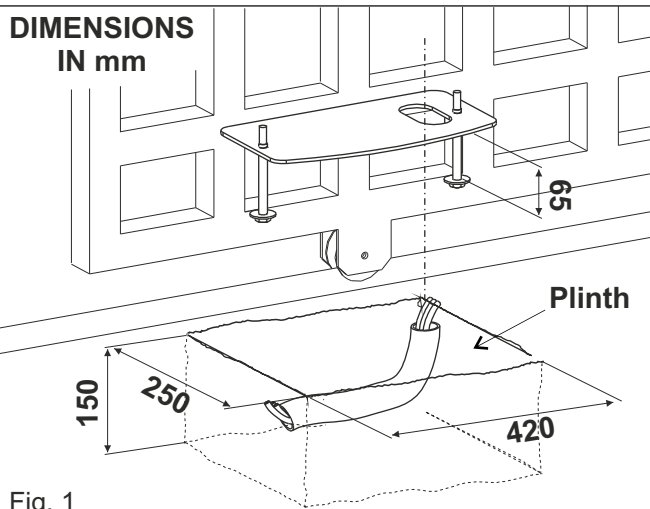

Fig. 1
2.1. Prepare a concrete basement according to the dimensions shown in Fig. 1; The foundation plate and the anchor bolts will be concreted inside the basement